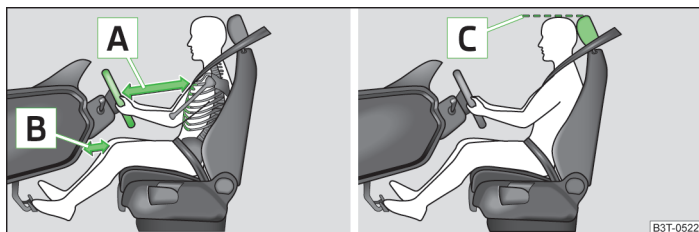

Fig. 158 Correct driver seating position / properly adjusted headrest
- Position the steering wheel so that there is a gap of at least 25 cm between the steering wheel and the chest » Fig. 158 , and that the distance between the legs and the dash panel at the height of the knee airbag is at least 10 cm .
- Adjust the head restraint so that the top edge of the head restraint is at the same level as the upper part of your head ¹⁾ » Fig. 158 on page 178.
- Adjust the head restraint so that the top edge of the head restraint is at the same level as the upper part of the head » Fig. 158 on page 178.